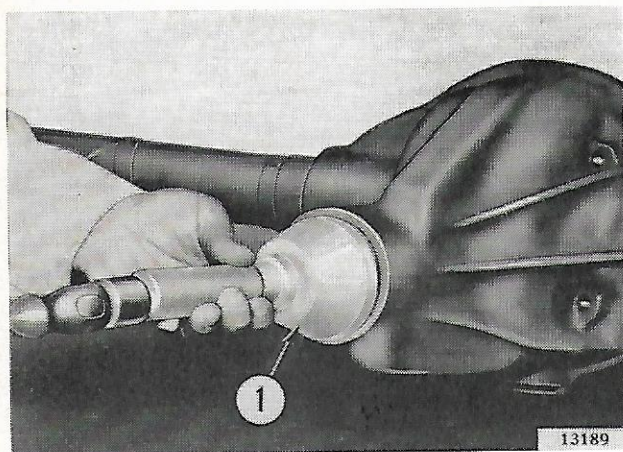

FIG. 11-21—PINION SHAFT OIL SEAL INSTALLER
- o. Remove the sleeve previously installed in place of the yoke. Install the oil seal with Tool C-359 shown in Fig. 11-21.